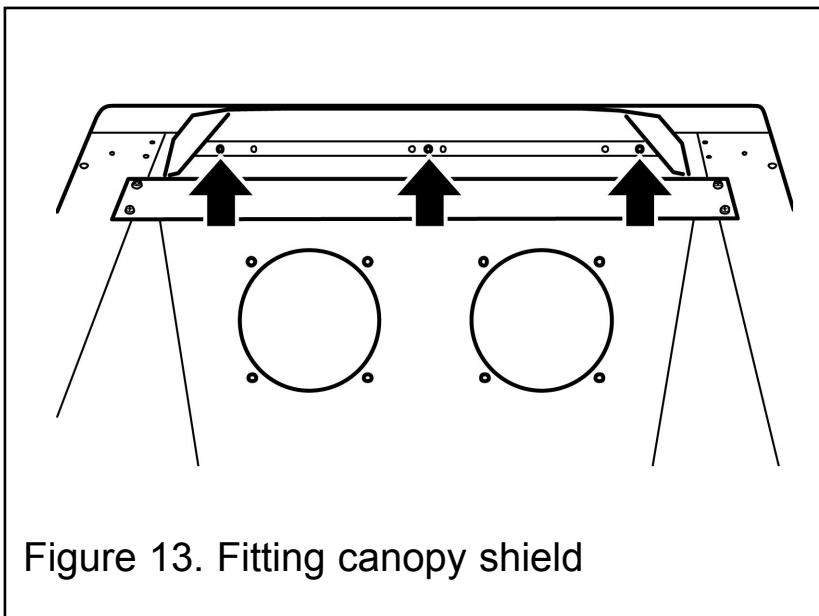

Figure 13. Fitting canopy shield
**6.** There is a canopy shield supplied with the appliance surround. Fit this to the convected air outlet of the appliance using the three self tapping screws supplied with the surround. (See figure 13)